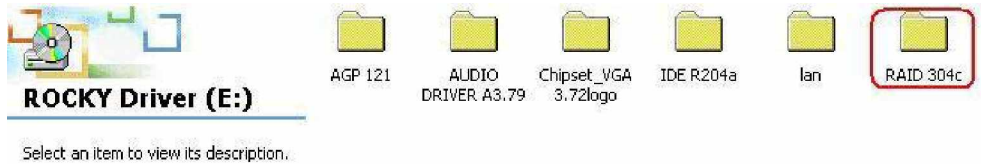

Figure E-1: RAID 304C Subdirectory
Step 3: Open the **RAID 304c** directory (see **Figure E-1**).